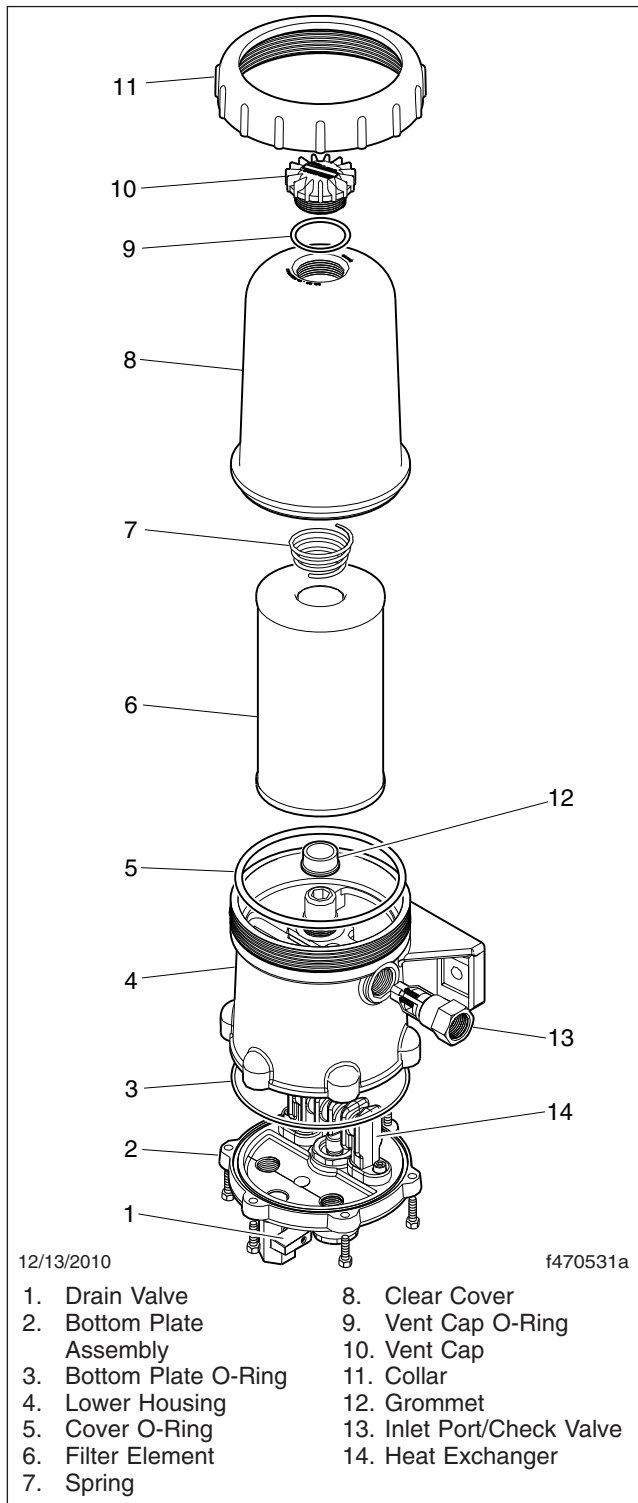

Fig. 2, DAVCO Fuel Pro 382
4. Remove the vent cap (**Fig. 2**, Item 10) and open the drain valve (**Fig. 2**, Item 1) to drain the fuel completely, then close the drain valve.
6. Remove the filter, cover O-ring, and vent cap O-ring. Dispose of them in an environmentally acceptable manner. See Fig. 2 or Fig. 4.